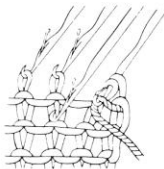

Fig.58-3
- Push the needle back until the two stitches pass over the closed hook and form a single stitch. (Fig.58-3)